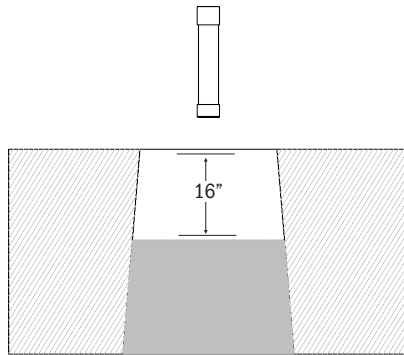

Figure 1
**STEP 2:** Mix concrete. Partially fill each hole until concrete is 16" from the playing surface. See Figure 1.
- STEP 1:** Remove the screw from the Crank Handle (Item # 3) and attach the Crank Handle to Post A (Item #1). Replace the screw and tighten. See Figure 1.